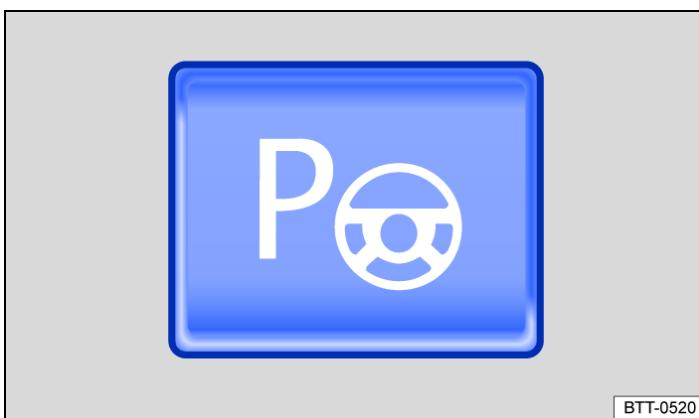

Fig. 2 In the centre console: button for switching on the Park Assist system (illustration).
- Press the → Fig. 2 button. The indicator lamp lights up yellow and the park function is active.
Press the → Fig. 2 button to select one of several displayed parking spaces in sequence.